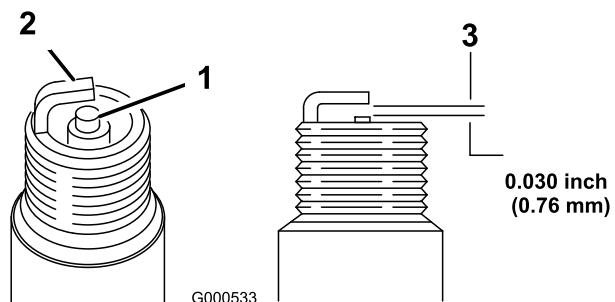

Figure 35
1. Look at the center of the spark plug (Figure 35). If you see light brown or gray on the insulator, the engine is operating properly. A black coating on the insulator usually means the air cleaner is dirty.
2. Check the gap between the center and side electrodes (Figure 35). Bend the side electrode (Figure 35) if the gap is not correct.